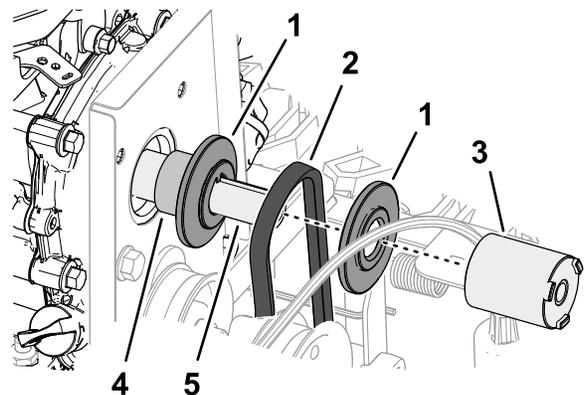

Figure 46
4. Remove the pulley spacer, the forward sheave half, and traction belt 87.6 cm (34-1/2 inches) from the crankshaft of the engine (Figure 46).